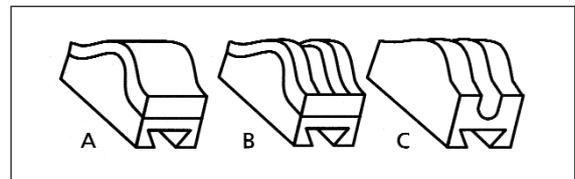

Figure 2
1. Choose an adaptor head for the type of fibre to be tested. The KI6150 is supplied with three adaptors (as shown in Figure 2); (A) foam covered, to accommodate 900 unbuffered fibre; (B) smooth-surfaced with foam perimeter, for use with ribbon fibre or a 250um coated fibre., and (C) slotted, for 3mm jacketed fibre (ie, pigtailed and jumpers) or loose tube fibre.